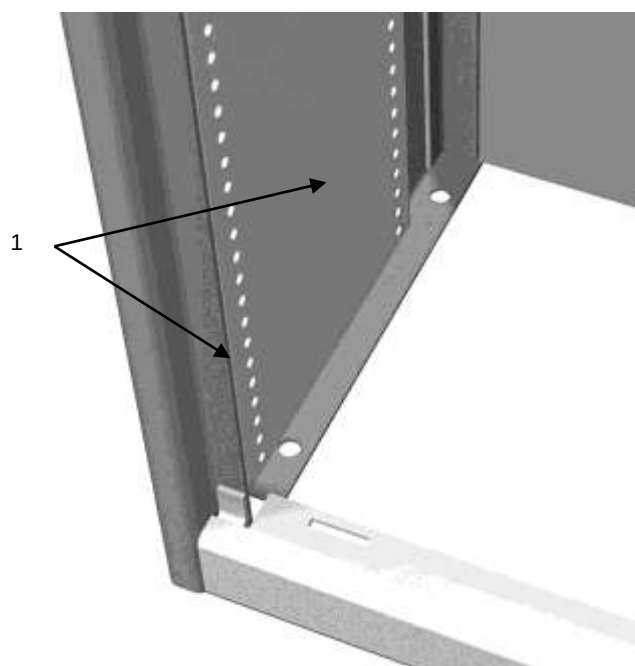

Figure 3-5: Location of fixing bolts
3. Remove the 4 fixing bolts (1) (2 either side), see Figure 3-5 and then remove the pallet.